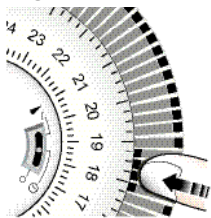
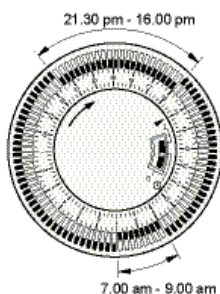
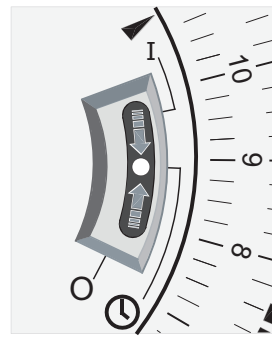

Fig. 7
Fig. 8
Fig. 9
1. Using your finger tip or the tip of a pencil, push in as many segments as necessary around the dial, according to the times you don't require heat – see Fig. 7. Each segment pushed in switches the heater OFF for that part of the hour. All other segments will be ON. For example, Fig. 8 shows the timer set to switch the heater ON between 9.00am and 4.00pm and between 9.30pm and 7.00am.
Check that the clock shows the correct time of day. Set the I - - slide switch to (see Fig. 9) - the heater will switch ON and OFF according to the timer settings (see Fig. 8).